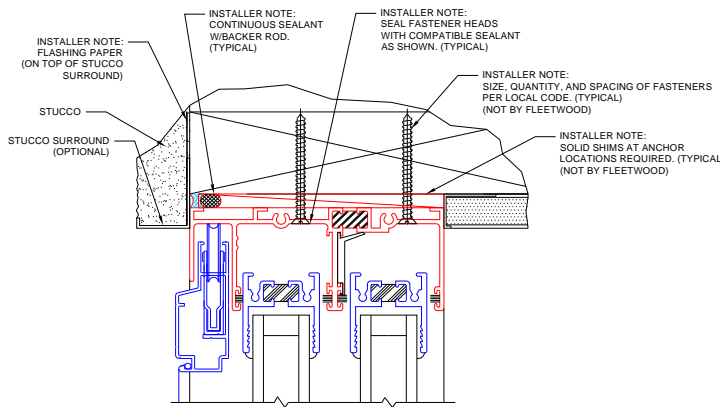

Figure 15:
2. Attach frame to structure as shown below (Figures 15 & 16).